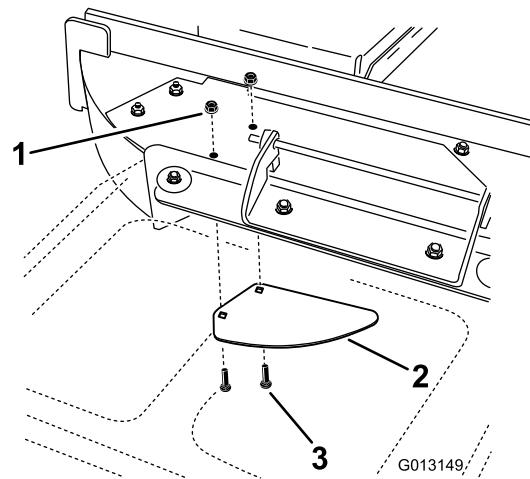

Figure 7
7. Install the filler plate at the same location as shown in Figure 7. Use the fasteners previously removed to secure the plate to the mower deck.